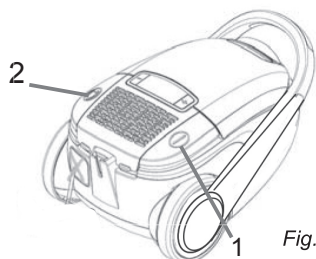

Fig.15
1. Switch off the vacuum cleaner with the on/off switch (Fig. 15/1) and pull the plug from the mains socket.
3. To retract the power cord, push the cord retracting button (Fig. 15/2).